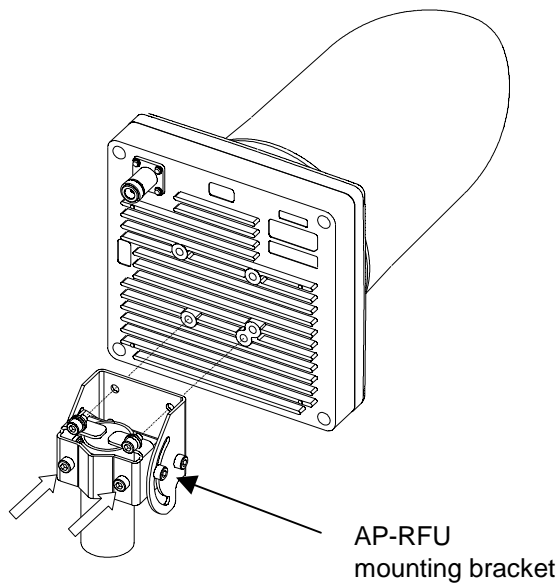

Figure 5-2 Installing the Mounting Bracket
Fix the AP-RFU mounting bracket to the pole using the bolts ① and ② as shown in Figure 5-2.